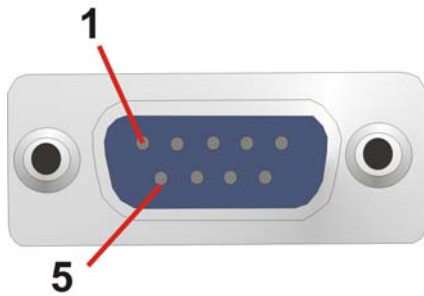

Figure 3-20: Serial Port Connector
- CN Pinouts: See **Figure 3-20** and **Table 3-21**